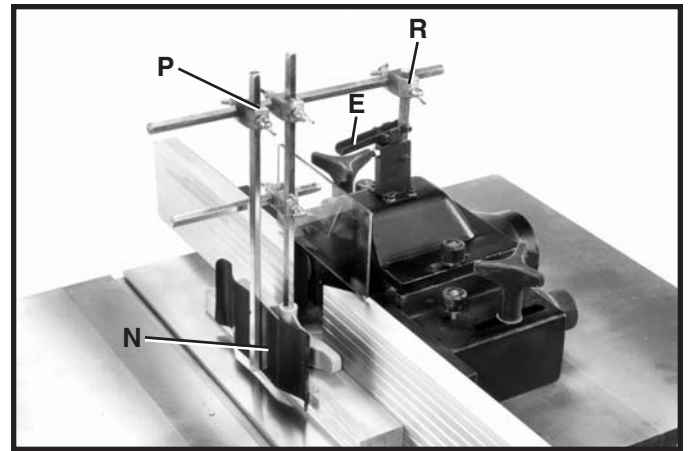

Fig. 56
4. Loosen thumb screws on guard mounting bracket (P) Fig. 56, and adjust spring clamp (N) so it will provide inward pressure on workpiece; then tighten thumb screws. **NOTE: Thumb screws on guard mounting bracket (R) Fig. 56, can be loosened to permit extension of guard assembly.**
CAUTION: Always make certain guard locking handle (E) Fig. 56, is in the locked position as shown and all thumb screws are tight on guard assembly before turning shaper on.